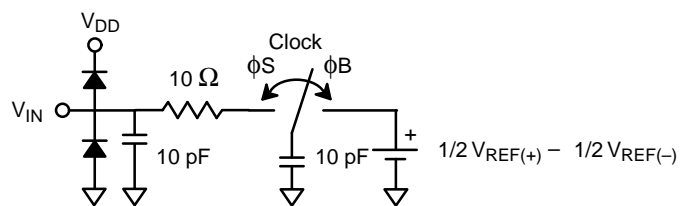

Figure 5. Analog Input Equivalent Circuit
- See V_{IN} input equivalent circuit (Figure 5.) for high sampling rates. Switched capacitor analog input requires driver with low output resistance.